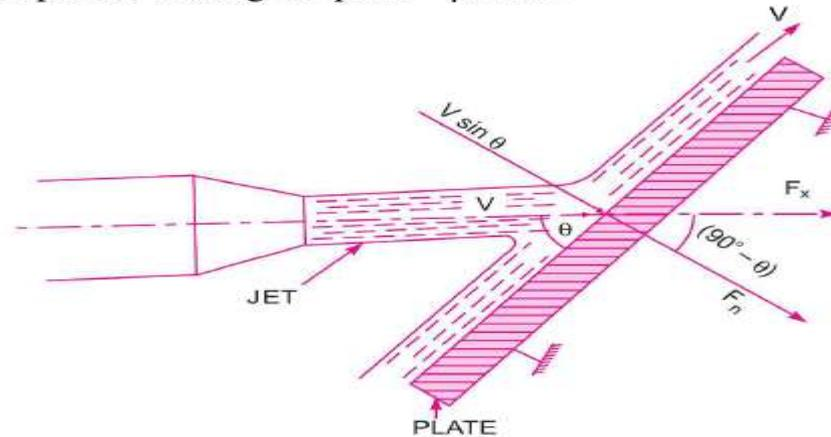

Fig. 2 Jet striking stationary inclined plate.
2. Force Exerted by a Jet on Stationary Inclined Flat Plate. Let a jet of water, coming out from the nozzle, strikes an inclined flat plate as shown in Fig. 2.